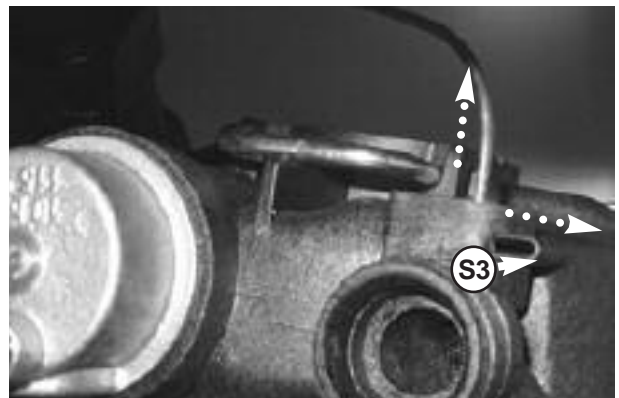

Fig. 95
7. Pull the pump toward you and remove the clip S3 securing the pressure gauge (see Fig. 95);